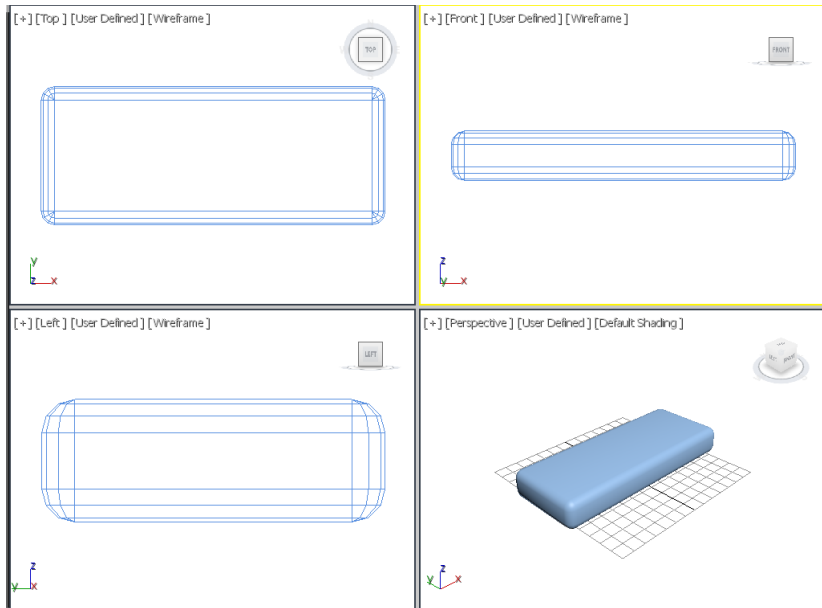

Figure 3-20 A chamfer box created for seat support
3. Choose the **Create** button; a chamfer box is created, as shown in Figure 3-20.